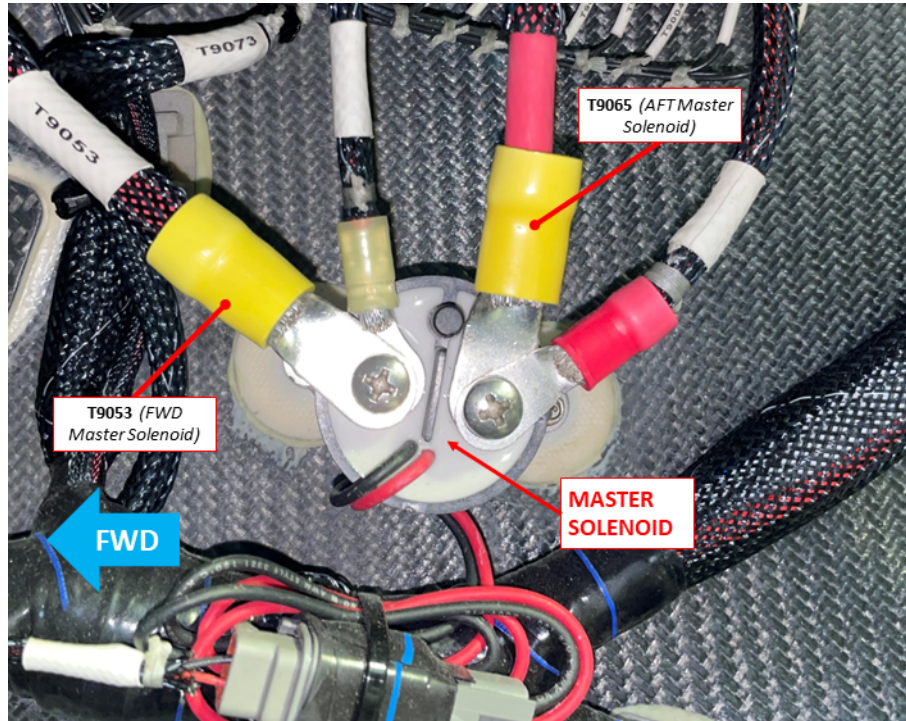

Figure 6 Aircraft Master Solenoid (T9053 & T9065)
- i. T9053 (FWD Master Solenoid) Reference Figure 6
- ii. T9065 (AFT Master Solenoid) Reference Figure 6